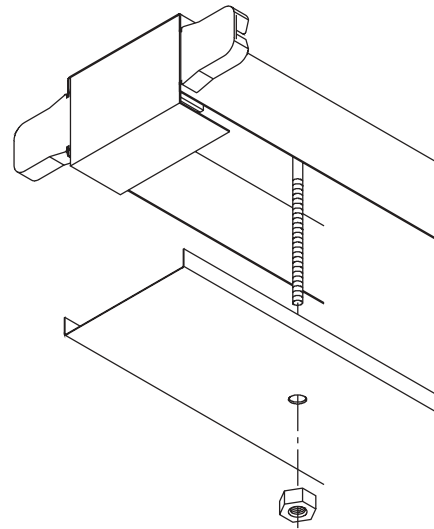

Fig. 10
**8. Attach the wireway cover,** by grasping cover with flanges facing upward. Align the holes with the carriage bolts hanging from the base. Slide the cover upward and secure the cover in place with (2) hex nuts. **See Figure 10.**